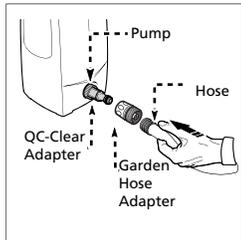
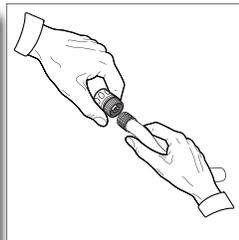

Fig. 10
Fig. 11
- First, remove the plastic shipping cover on the water inlet on the back of the power washer. Attach the clear plastic adapter by screwing it into the water inlet (Fig. 10). Hand tight is fine. Next screw on the blue/black collar attachment to your garden hose (Fig. 11). Slide the blue/black collar onto the clear adapter, it will “click” into place. The water is now connected to your power washer.